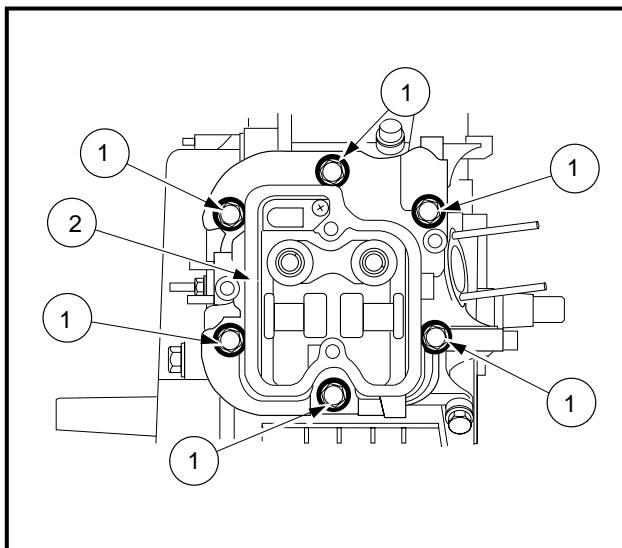

Figure 13-11 Cylinder Head
1. Remove the six bolts (1) and remove the cylinder head assembly (2) (**Figure 13-11, Page 13-11**).